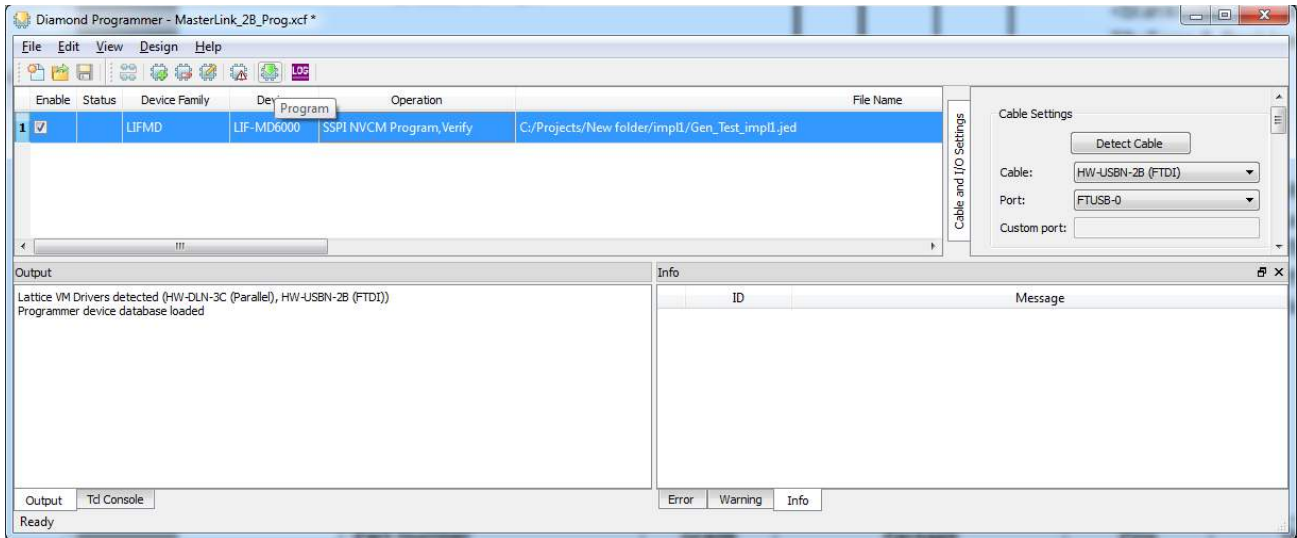

Figure 5.31. CrossLink Family – Program Icon
4. Click the **Program** icon to program the device as shown in Figure 5.31.